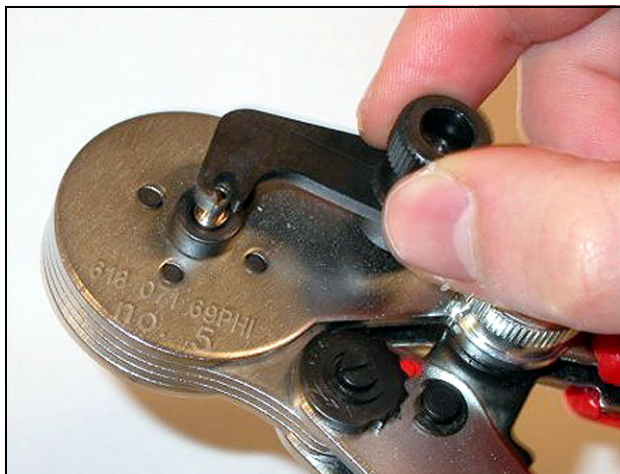

figure 45.22: Locking a ferrule
- 21 Turn the small lever to lock the ferrule (refer to figure 45.22).